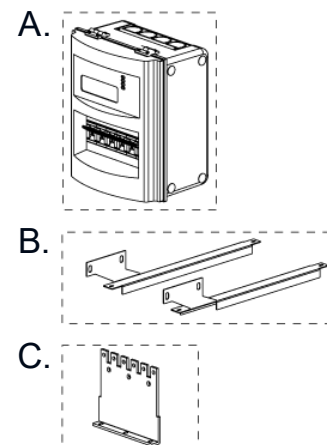

Figure 2. Package Contents
- DCX™ Series top terminal battery disconnect unit (Figure 2, A.)
- Mounting bracket(s) (Figure 2, B.)
- Copper battery termination bus (Figure 2, C)